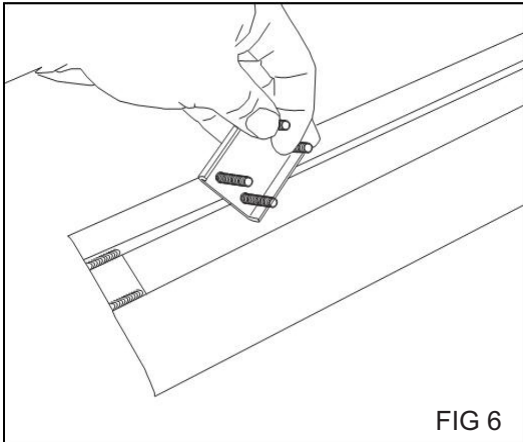

FIG 6
- STEP 6. Attach step bars to the mounting brackets using the M6 hardware included with the step bars. **SEE FIGURE 6,7,8**